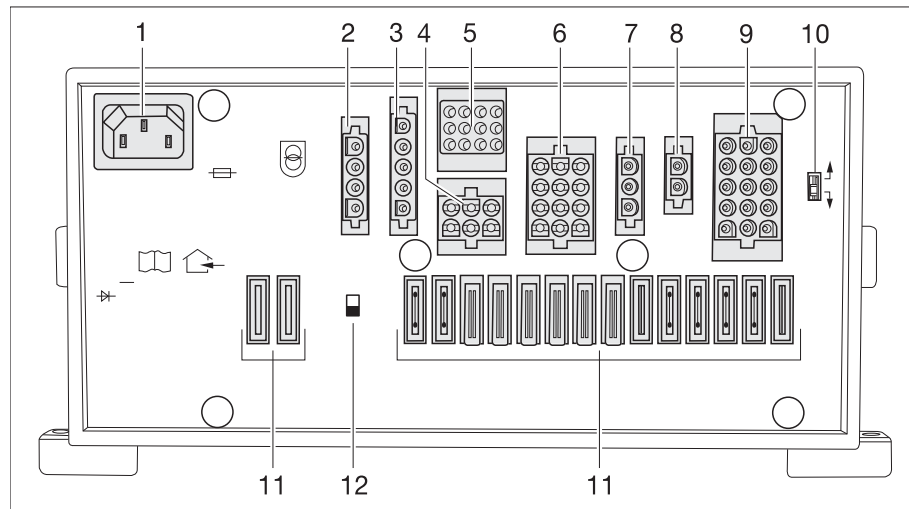

Fig. 221 Transformer/rectifier (EBL 119)
- ▷ The battery cut-off switch (Fig. 221,12) disconnects all the appliances that are connected to the transformer/rectifier from the 12 V network.
- ▶ If the battery selector switch (Fig. 221,10) is set incorrectly, oxyhydrogen gas (exploding gas) can form. Danger of explosion!
The battery selector switch (Fig. 221,10) is used to set the charger module in the transformer/rectifier to the type of living area battery installed in the vehicle ("lead acid", "dryfill" or AGM).